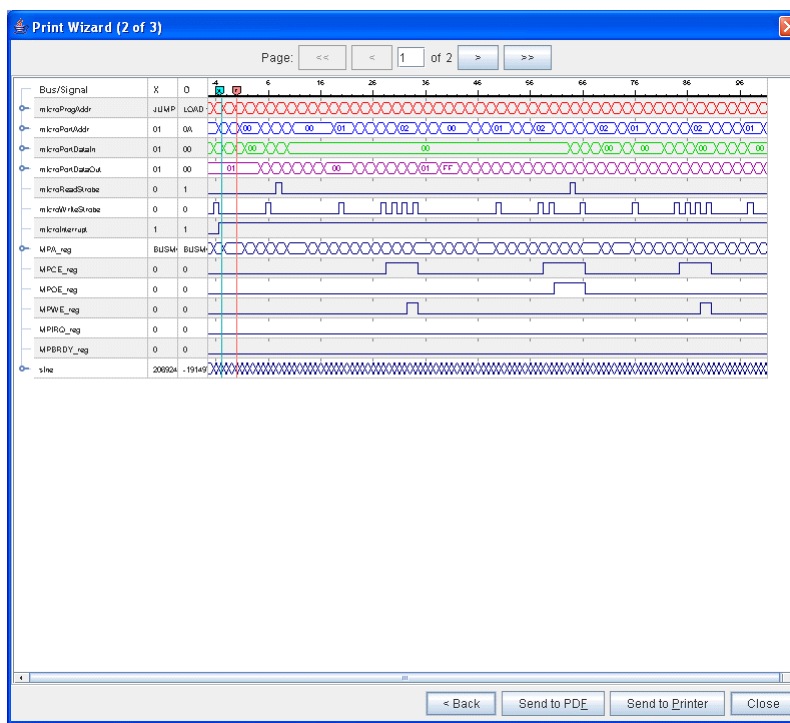
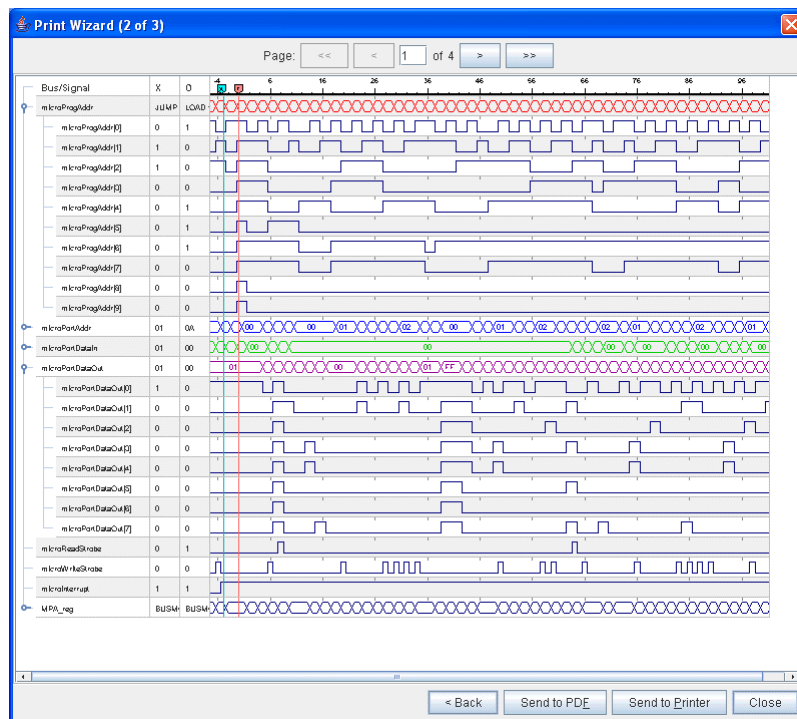

Figure 4-8: Print Wizard (2 of 3)
Figure 4-9: Expanding Buses in Print Wizard (2 of 3)
2. (2 of 3) is the Print waveform printout preview navigator window (Figure 4-8, page 4-11)
The second Print Wizard window (shown in Figure 4-8) shows a preview of the waveform printout.
The buttons at the bottom of the Print Wizard (2 of 3) window (Figure 4-8) are defined as follows:
You can manipulate the waveform by expanding and contracting the buses in the print preview window. For example, if you expand a bus in Figure 4-8, page 4-11 such that it pushes other signals/buses to another page, the total print preview page count at the top will change accordingly, as shown in Figure 4-9.